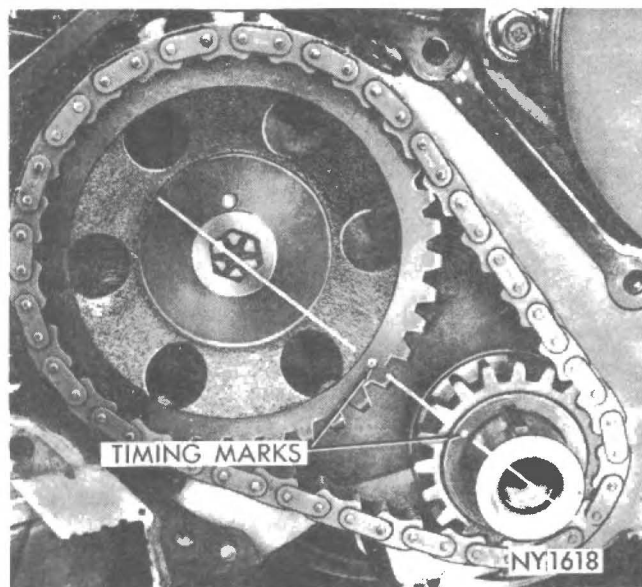

Fig. 19 - Alignment of timing marks.
(1) Turn crankshaft to line up centreline of camshaft and crankshaft with the timing mark on crankshaft sprocket.
(2) Install camshaft sprocket and timing chain.
(3) Line up the timing marks on the sprockets with the centreline of the crankshaft and camshaft (Fig. 19).
(4) Tighten the camshaft sprocket lock bolt to 35 lbs./ft.